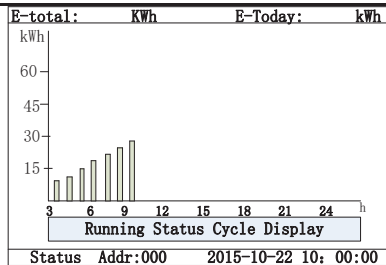

Figure 5.2 - Default Indication Interface for Normal Operation
- (2) Normal operation mode: Default indication interface for normal operation is shown in Figure 5.2.